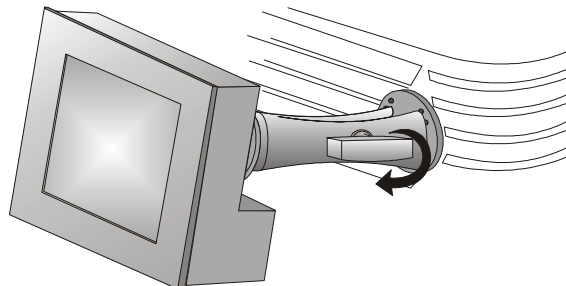

Figure 2-4 Tighten Mounting Arm
2. Tighten the mounting arm until it fits snug on the ball joint. (**Figure 2-4**)